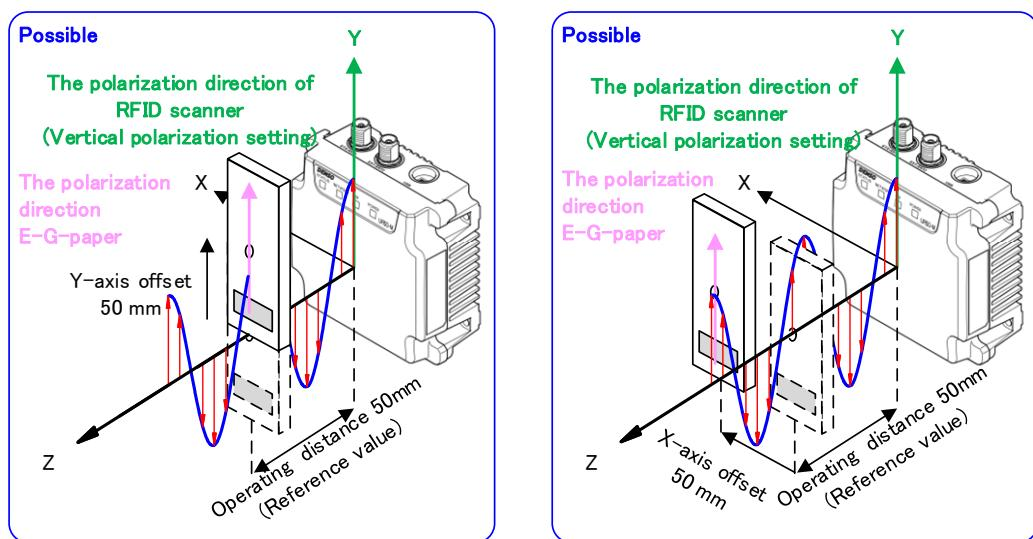

Figure 7.4 An Example of Arrangement that E-G-Paper is Offset
- If the E-G-Paper is moved away from the Z-axis, make it closer at the same distance to RFID scanner, then it will be possible to communicate. Referring Figure 7.4.